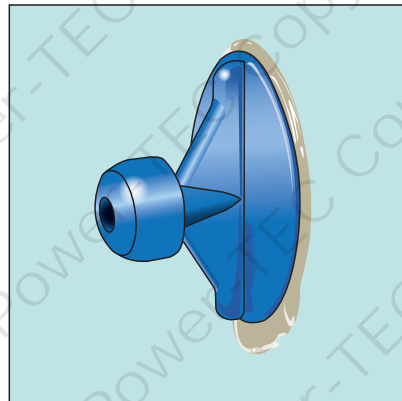

Fig. 2
3. Apply the hot glue to the pad and place in the centre of the dent (see Fig. 2).